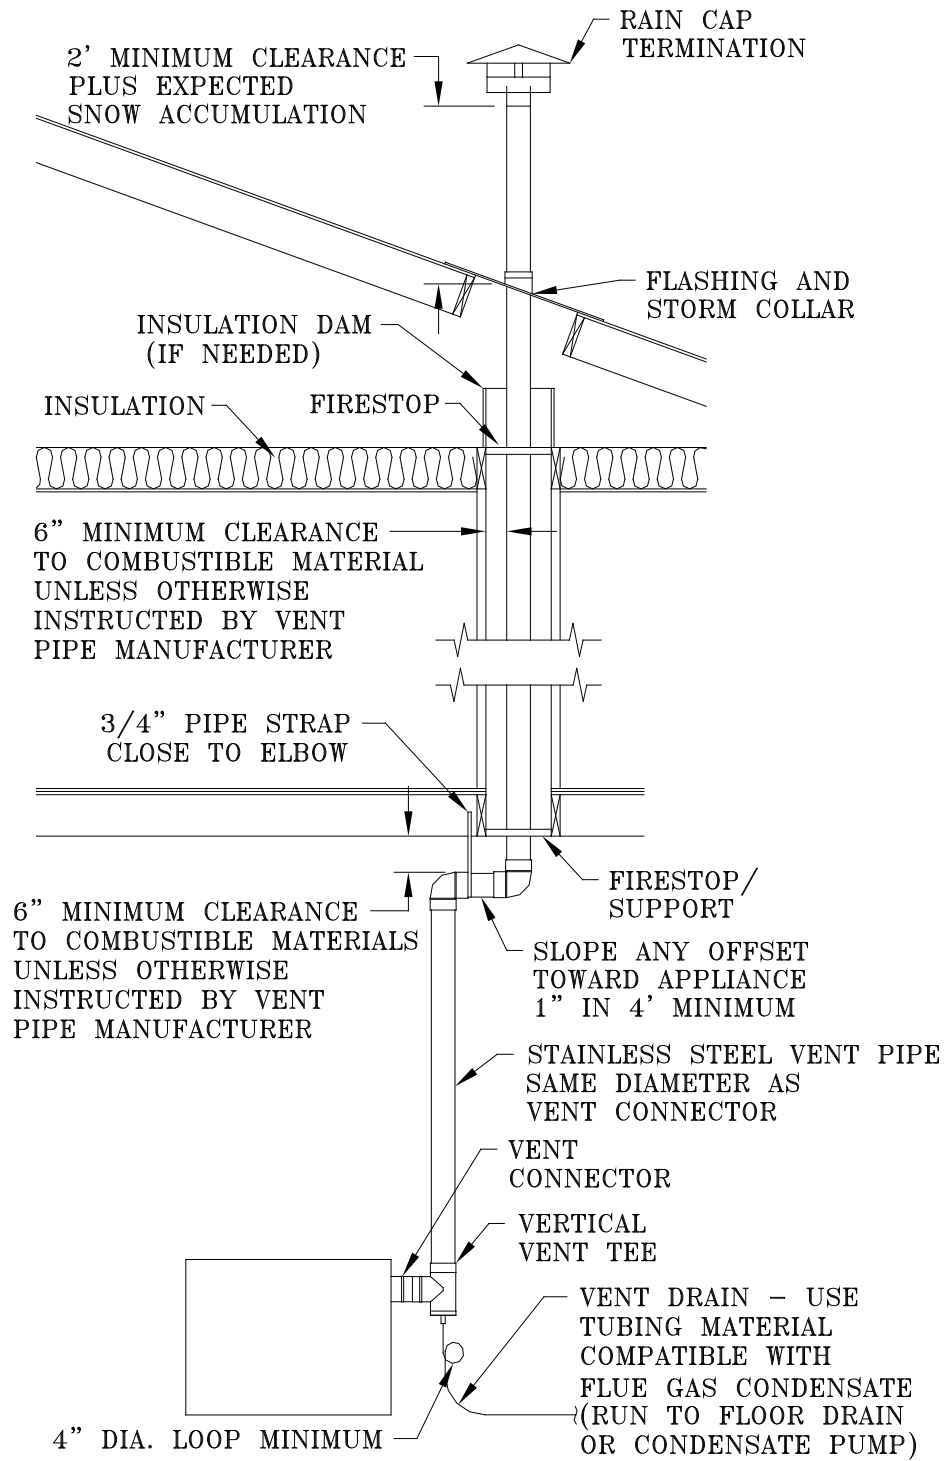

Figure 9: Vertical Vent Installation
H. Separate Vertical Venting System - See Figures 9, 10, and 11.
4. Whenever possible, install vent straight through the roof. Refer to Figure 9 if offset is necessary. Maintain minimum clearance to combustible materials.